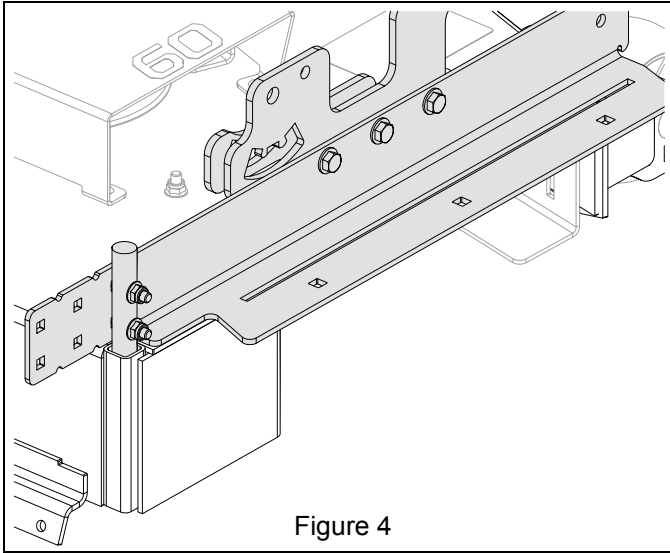

Figure 4
4. Install chute mount bracket assembly so pin inserts into deck. See Figure 4.